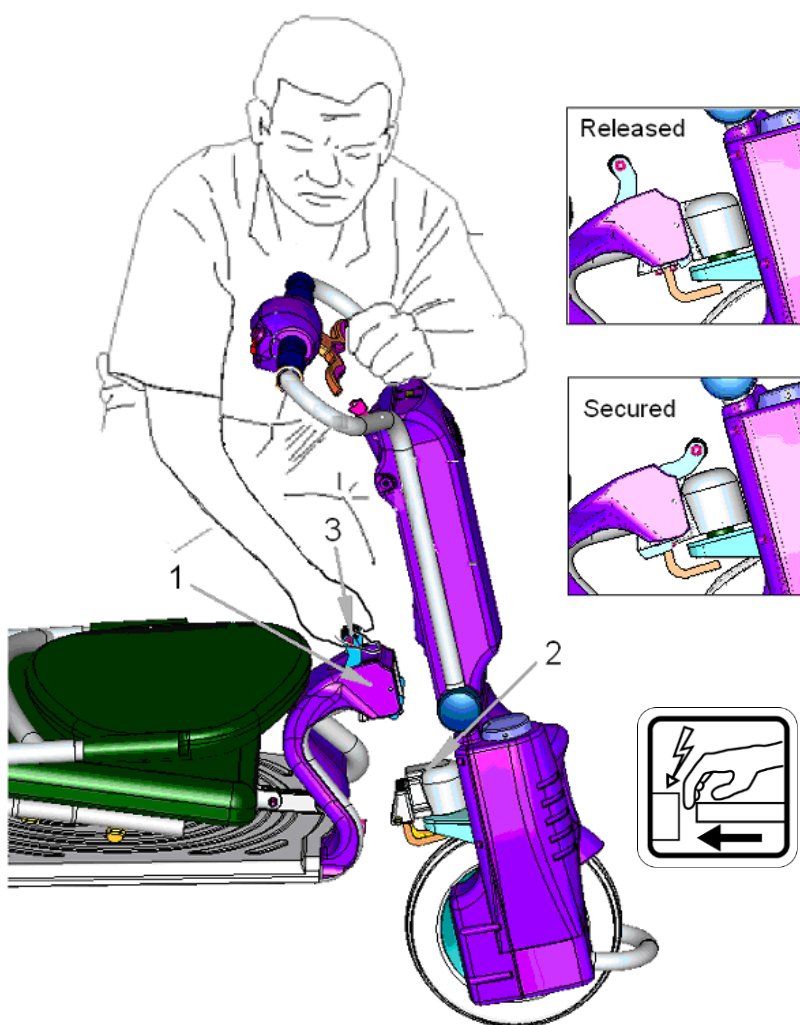

Figure 3
Refer to figure 3: The frame bushing (1) is inserted onto the tiller tapered block (2). It is also the fixation of the tiller to the frame by means of a locking lever (3).
We advise you to approach the frame from the left hand side (when you are right-handed). Take the tiller in your left hand, holding it at the frame tube just above the control panel. Make sure you hold it up straight and tilt it backwards slightly as indicated in **figure 3**.
Lift the frame bushing (1) by mean of the lever (3) using your right hand as shown in **figure 3**. Now place the frame bushing over the tapered block (2) of the tiller. Than after they attached together push the lever (3) forward and downward until it locks them together. Make sure that you hear a click that will ensure you completely secured connection. Please refer to **figure 3** to the differences between the two positions: Released and Secured . Also make sure that the connection is done properly by means of tilting the tiller forward and backwards . The electrical connections between the tiller and the frame is done at the same stage.